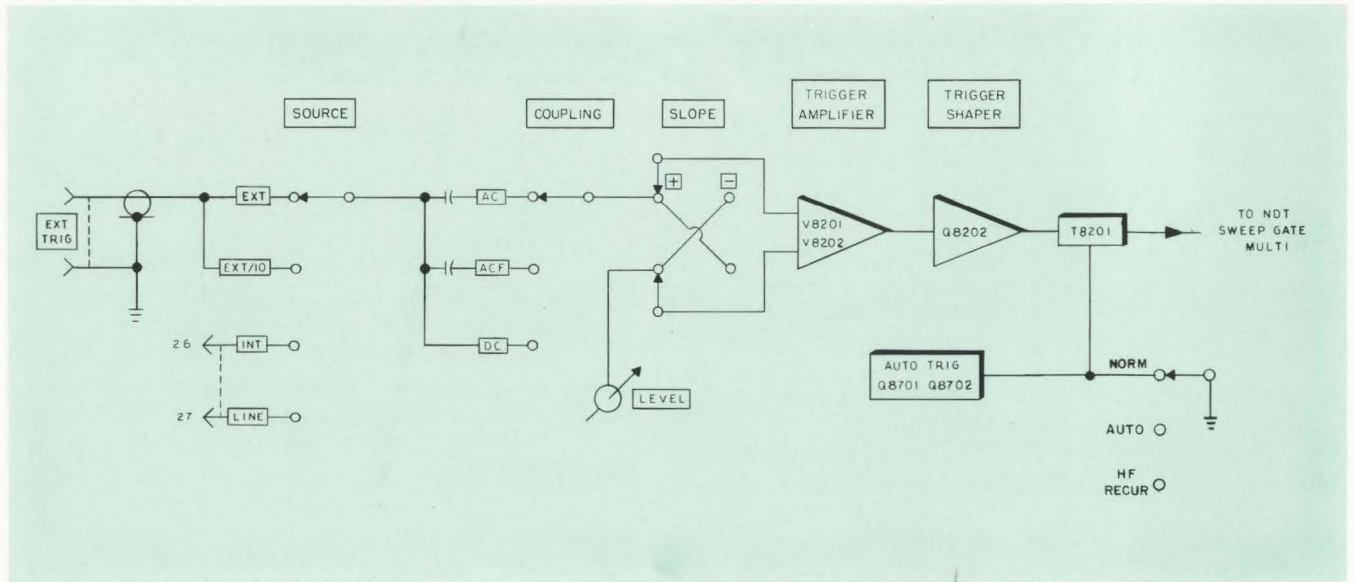

Figure 3-1a. NDT Trigger Circuit, Functional Block Diagram
- Figure 3-1a. NDT Trigger Circuit Functional Block Diagram
### 3-2. TRIGGER CIRCUIT DESCRIPTION (Figures 3-1a and 3-1b)